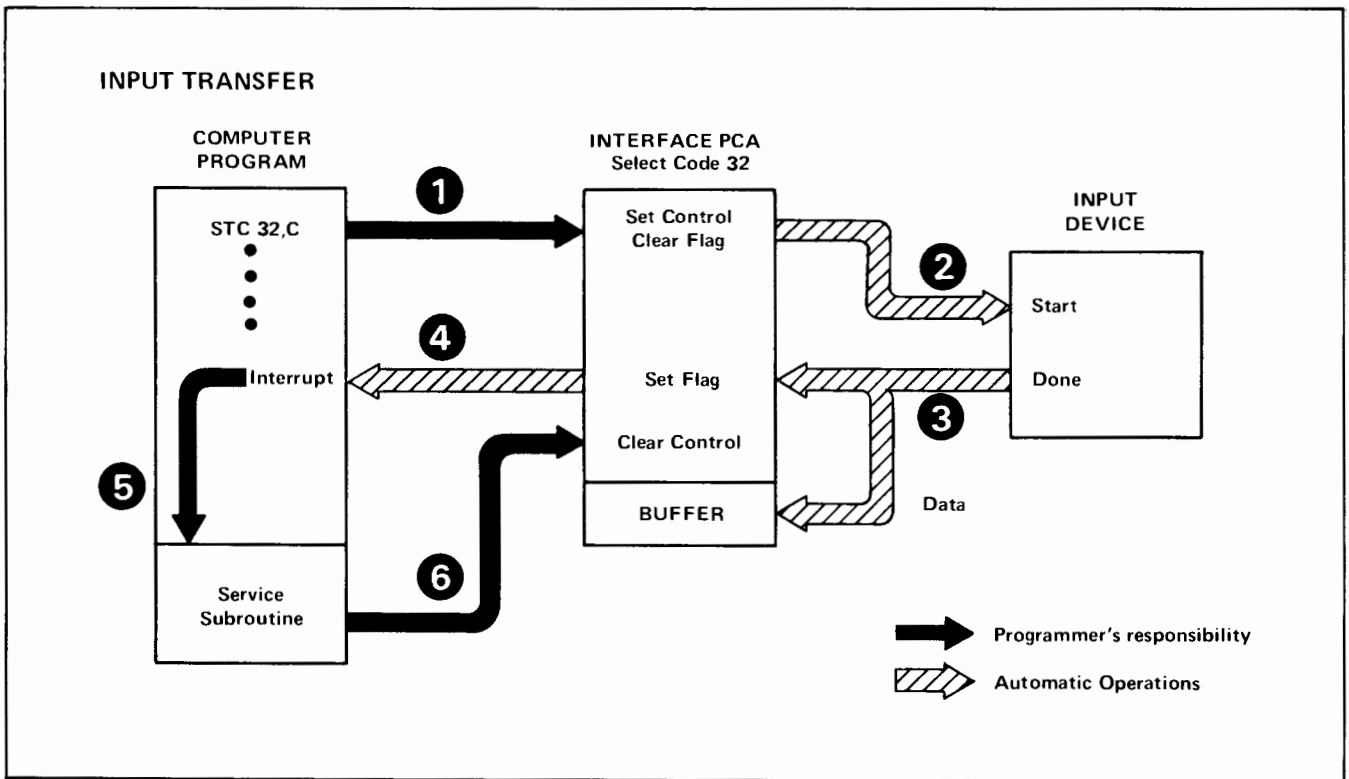
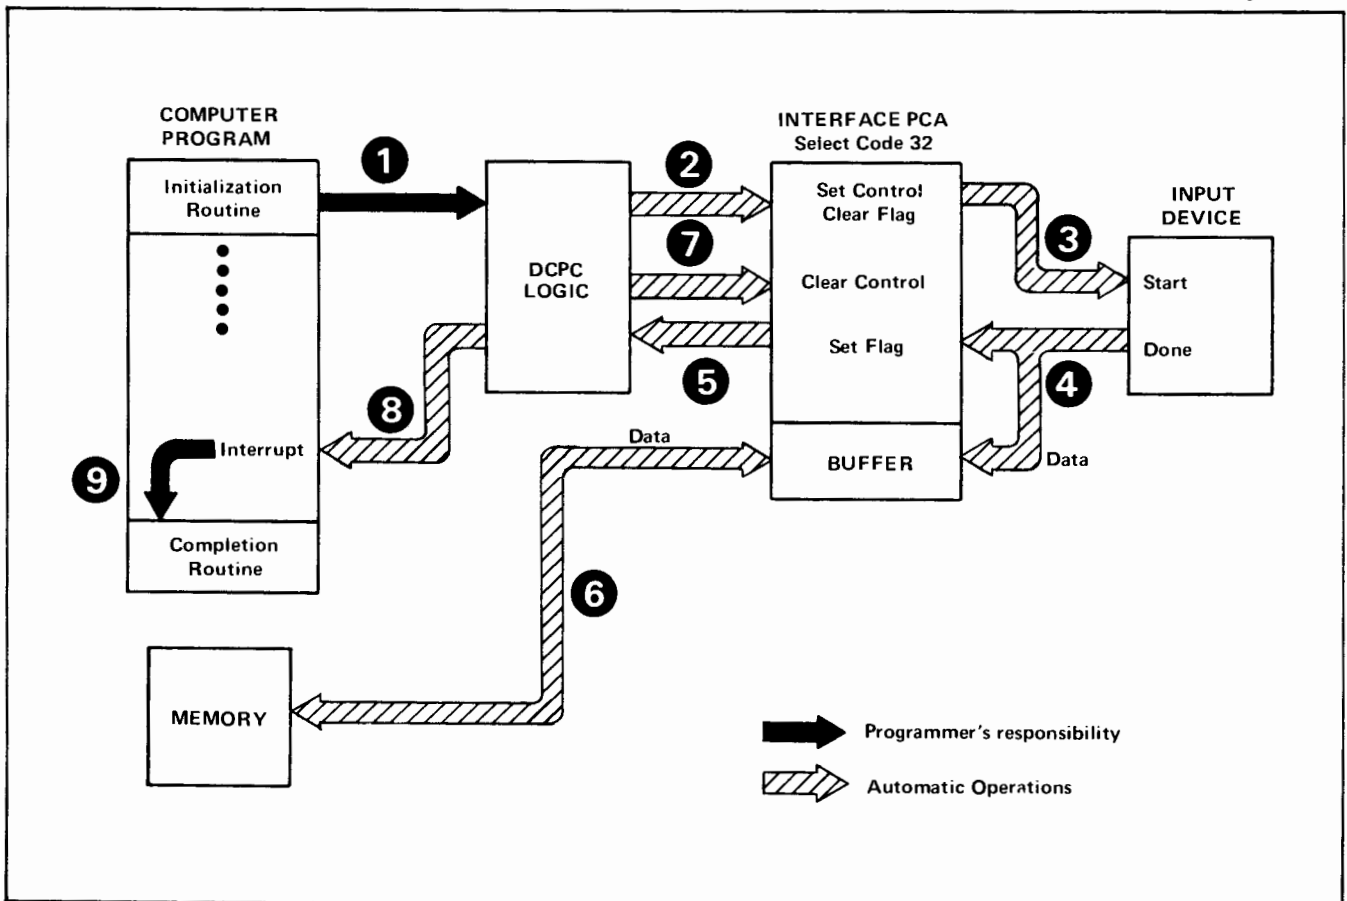

Figure 2-3. Input Data Transfer
Figure 2-7. DCPC Input Data Transfer
Figure 2-3 illustrates the sequence of operations for an input transfer. Note that some of the operations are under control of the computer program (programmer's responsibility) and some of the operations are automatic. The operation begins with a programmed instruction to set control and clear flag on the addressed interface PCA (1). In
Figure 2-7 illustrates the sequence of operations for a DCPC input data transfer. A comparison with the conventional interrupt method (figure 2-3) shows that much more of the DCPC operation is automatic. Remember that the procedure in figure 2-3 must be repeated for each word or character. In figure 2-7 the automatic DCPC operation will transfer a block of data of any size limited only by the available memory space. The sequence of events is as follows. (An input data transfer is illustrated; the minor differences for an output transfer are explained in text.)